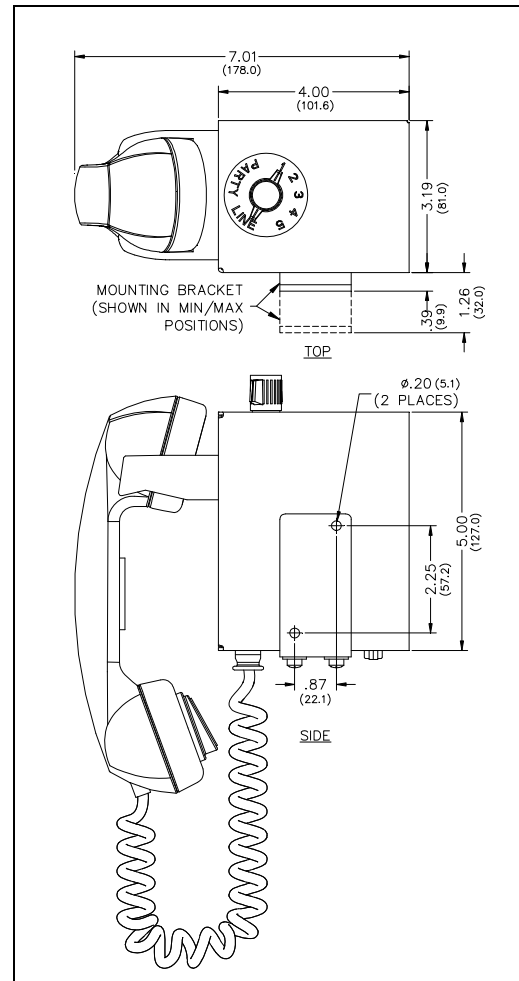
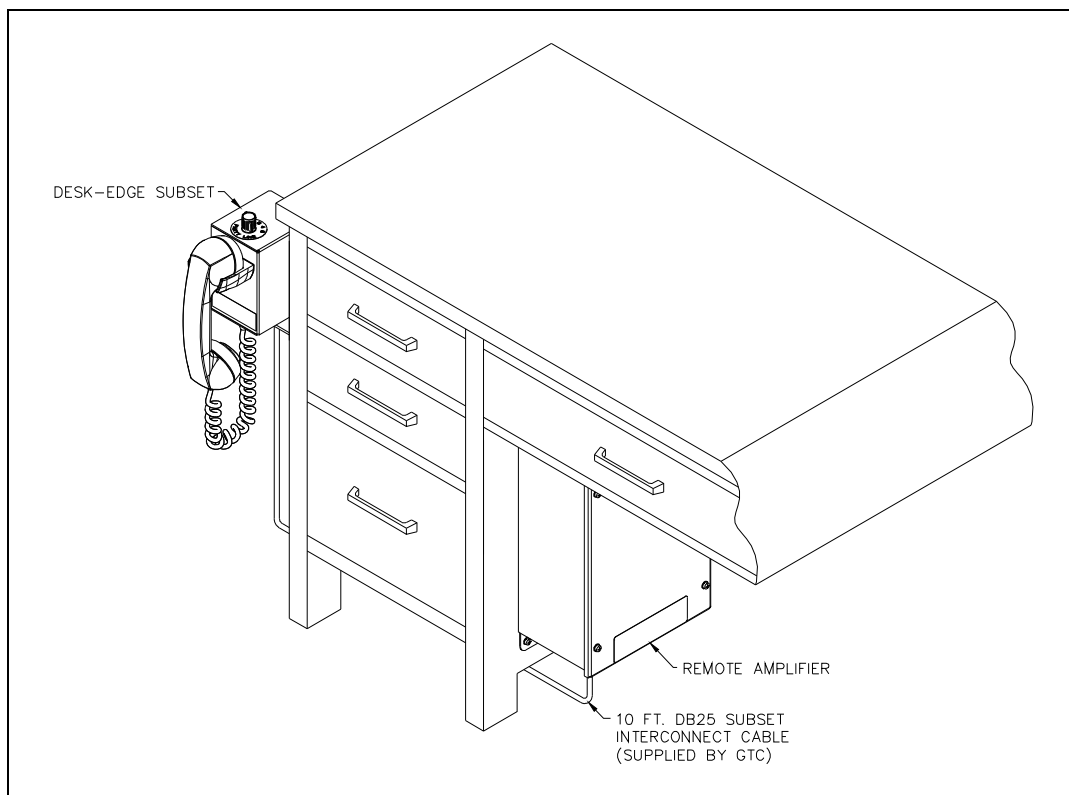

Figure 1. ICS/SP2 Desk-Edge Subset Outline View
Figure 2. Typical desk-edge installation
1. Secure the mounting bracket to a vertical surface using two #8 screws in the 0.20-inch (5.1-mm) holes on the side of the mounting bracket (see Figure 1 and Figure 2).